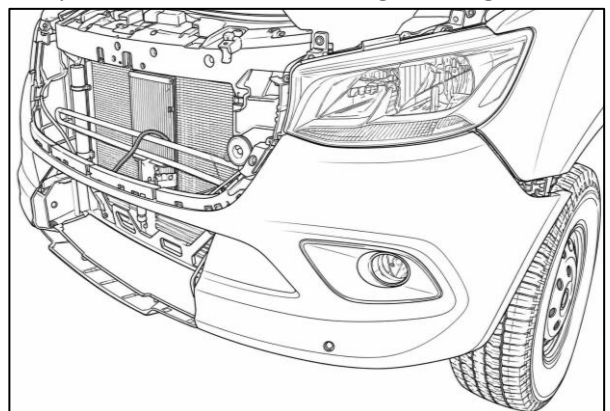

Figure 23: Loosely Installed Factory Front Bumper
26. ☐ Reinstall the factory plastic bumper back onto the vehicle using only the top two torx bolts. Leave the outer portions of the OEM plastic bumper loose for the time being. See Figure 23.